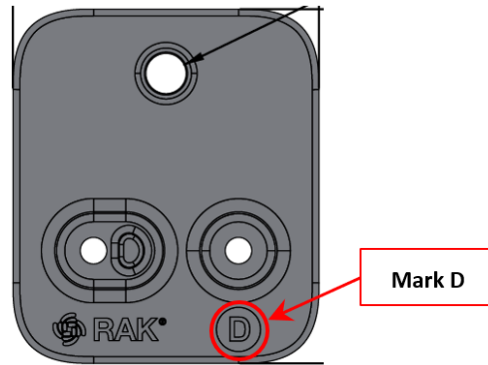

Figure 16: Mount accessory marked with letter D
- For wall mount, use two (2) pieces of mount accessories with an indicator marked with the letter **D**, as shown in **Figure 16**.